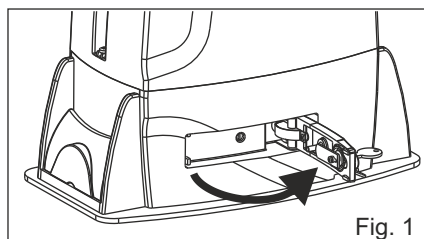

Fig. 1
- 1) Disconnect the power supply, release the motor (Fig. 1) and manually position the leaves or the beam on halfway (Fig. 3-4).